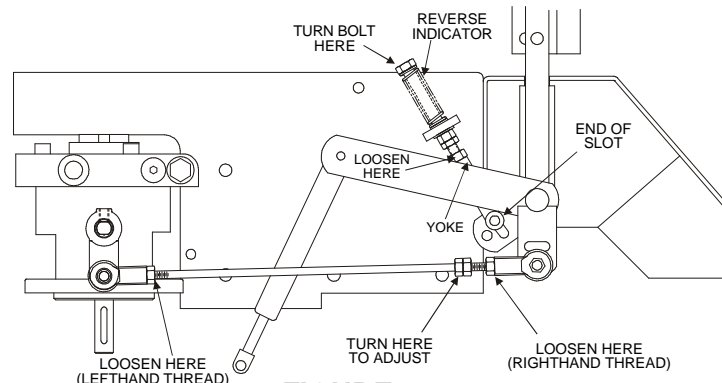

FIGURE 14
- c) Begin with either the left or right motion control lever. Move lever to the neutral position and pull lever back until the clevis pin (on arm below pivot shaft) contacts the end of the slot (just beginning to put pressure on spring), See Figure 14.
- e) Loosen lock nuts from the ball joints at each end of the RH pump control linkage (See Figure 14).
- h) Bring the RH motion control lever into the neutral position. Adjust RH pump control rod length by rotating the double nuts on the rod in the appropriate direction until the wheels slightly creep in reverse. (See Figure 14). Move the motion control lever to the reverse position and while applying slight pressure to the lever, allow the reverse indicator spring to bring the levers back to neutral. The wheel must stop turning or slightly creep in reverse.